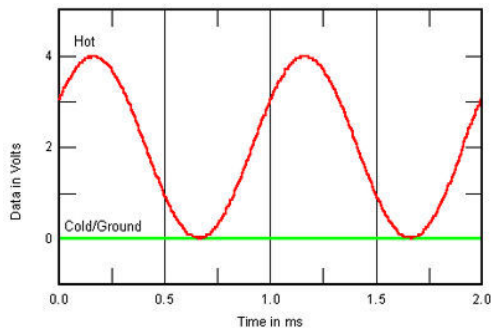

Fig.1 An unbalanced signal connection.
Audiophiles have lived with normal connections—two wires, respectively, for ground and signal connections—for decades without experiencing significant problems (figs.1 & 2). Even the requirements of those delicate low-level signals from moving-coil cartridges can be handled satisfactorily, provided that appropriate care is taken with local hum fields and system grounding. And with digital sources, the signal levels are so high that noise and hum are considered wholly negligible. If a normal, unbalanced connection can be made to work for a tenth of a thousandth of a volt signal from a low-output phono cartridge, it must be cast-iron reliable for the 1V or 2V signal from a modern digital source.
Fig.4 A typical all-balanced preamplifier line stage. The hot signal (H) consists of the wanted signal (A) plus noise (N); $i.e$, $H=A+N$. The wanted cold signal is A in antiphase, $-A$, and again the same noise picked up by the cable, N; $i.e$, $C=-A+N$. Because the noise is the same in both hot and cold lines, it is termed "common-mode" noise. Provided the amplifier's differential input has total common-mode rejection, it subtracts the cold signal from the hot, with an output $D = (A+N)-(-A+N) = A+A+N-N = 2A$. Note complexity compared with fig.1 circuit. In addition, the resistors marked "R" must be closely matched between hot and cold signal polarities to maintain common-mode rejection and minimize distortion.